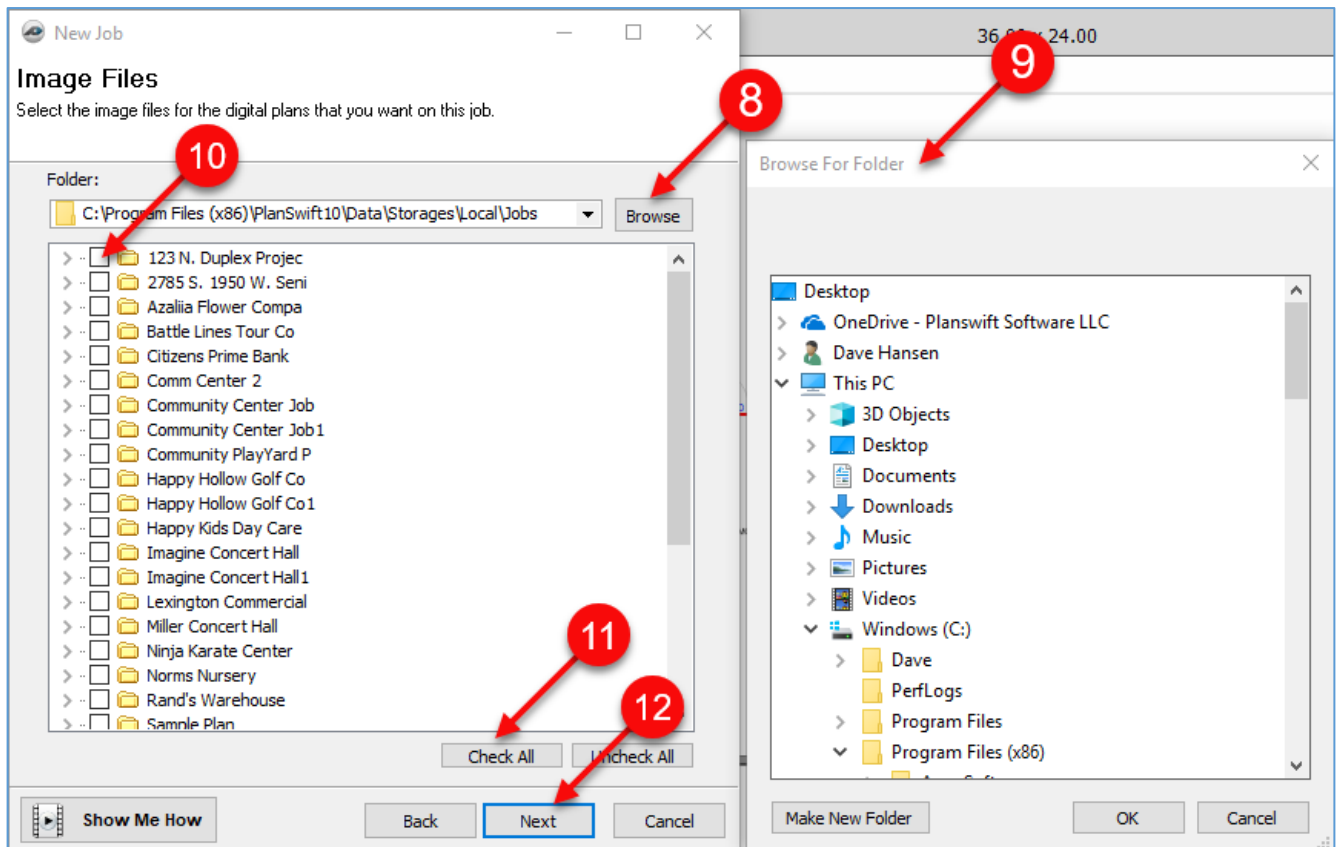

Figure 1-C
13. The **Convert Settings** dialog window allows for the selection of conversion settings (Fig. 1-D).